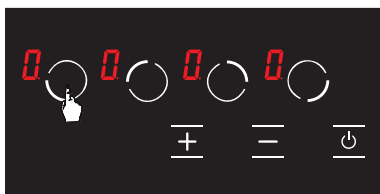

Figure 15
2. Press the front left hob selection key (●) again. (See Fig. 15)